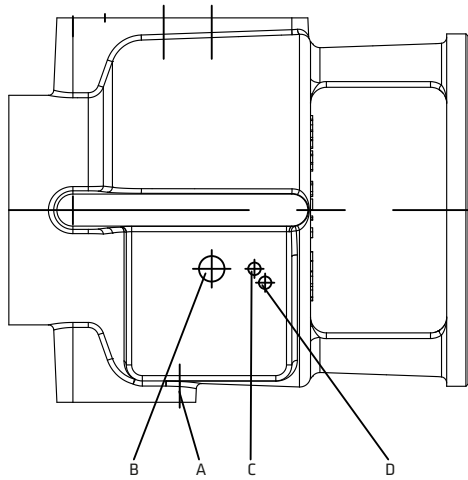

Figure 7. Holes for lubrication
- b) Release thumb screw and remove bottle. Establish a measurement from the centre line of the oiler connection in bearing housing to the upper cross arm of 6 mm; this can be obtained by completely screwing down the lower arm as illustrated on figure 7.